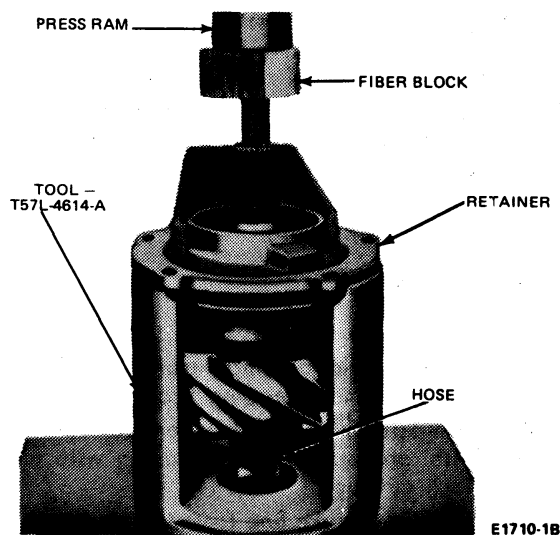

FIG. 24 Removing Pinion Front Bearing Cone
5. Place a protective sleeve (hose) on the pinion pilot bearing surface. Press the drive pinion shaft out of the pinion (Fig. 24).